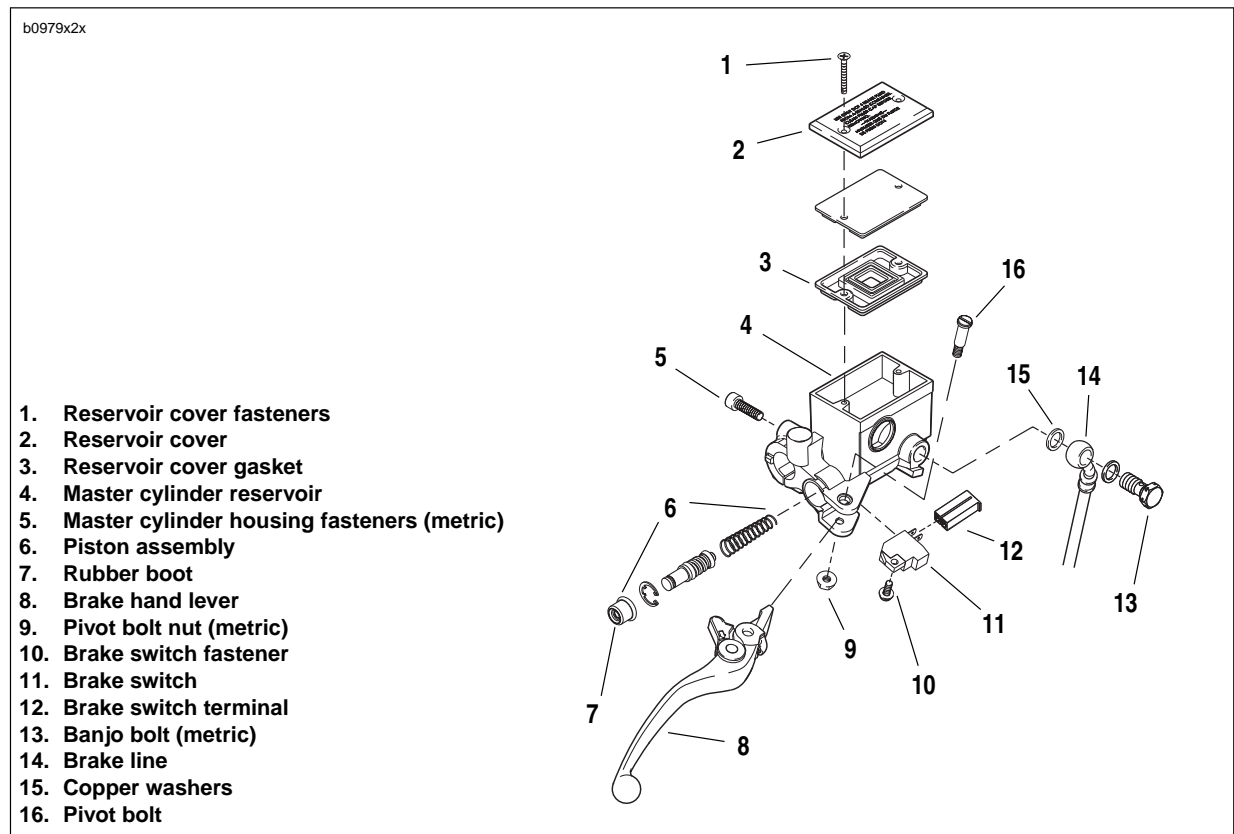
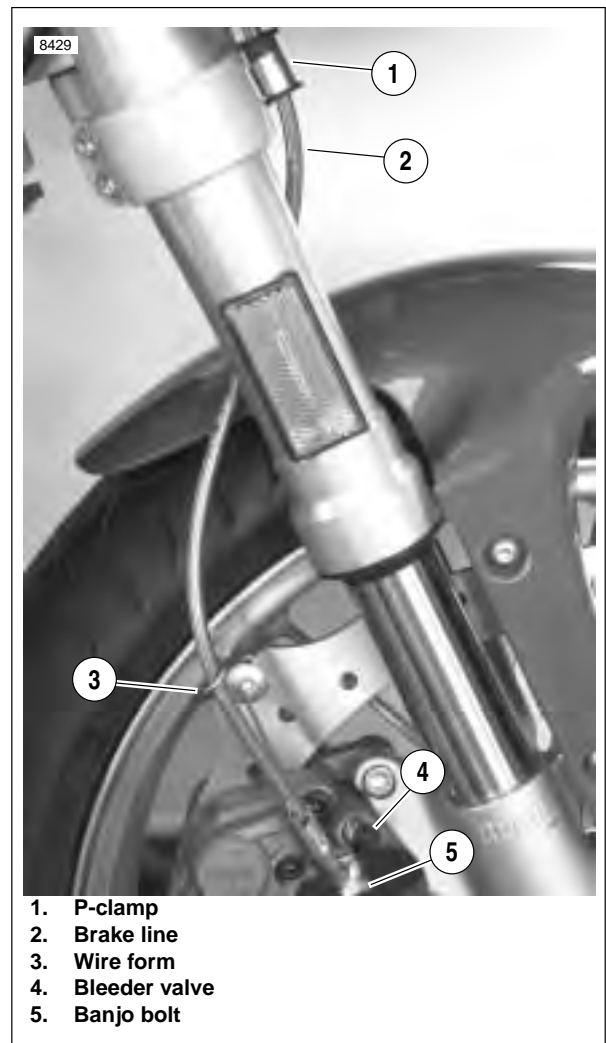

Figure 2-37. Front Brake Hand Lever Assembly
Figure 2-42. Front Brake Line
2. See Figure 2-37. Remove the banjo bolt (13) (metric) and two copper washers (15) to disconnect brake line (14) from master cylinder (4). Discard copper washers.
3. Unplug terminal (12) to detach brake lamp switch (11).
1. See Figure 2-37. Remove pivot bolt nut (9) (metric) and pivot bolt (16) from hand lever pivot.
2. Detach front brake hand lever assembly (8) from hand lever pivot.
3. Detach front brake lamp switch (11) by removing the switch fastener (10).
1. See Figure 2-37. Remove master cylinder cover (2) by removing cylinder cover fasteners (1).
3. Remove rubber boot (7) and discard.
5. See Figure 2-37. Remove piston assembly (6) from front master cylinder reservoir (4) and discard.
4. See Figure 2-37. Insert piston assembly (6), spring first, into master cylinder reservoir (4).
1. See Figure 2-37. Lubricate pivot bolt (16) with LOCTITE ANTI-SEIZE.
2. Align hole in hand lever (8) with hole in hand lever pivot and install pivot bolt (16) through top of hand lever pivot and tighten nut to 80-120 **in-lbs** (9-13.5 Nm).
1. See Figure 2-37. Install front brake lamp switch (11).
- a. Install brake lamp switch (11) with switch fastener (10) and tighten to 7-10 **in-lbs** (0.8-1.0 Nm).
- b. Connect brake switch terminal (12) to brake lamp switch (11).
3. See Figure 2-37. Connect brake line to master cylinder using two **new** copper washers (15) and banjo bolt (13) (metric) and tighten to 16-20 ft-lbs (22-27 Nm).
5. See Figure 2-37. Remove two master cylinder cover screws (1), cover (2) and cover gasket (3).
10. See Figure 2-37. Attach master cylinder cover (2) and cover gasket (3). Tighten two cover fasteners (1) to 9-13 **in-lbs** (1.0-1.5 Nm).
2. See Figure 2-42. Remove p-clamp (1) detaching brake line from right side of lower fork clamp.
3. See Figure 2-37. Remove master cylinder banjo bolt (13) (metric) and two copper washers (15) to disconnect brake line from master cylinder (4). Discard copper washers.
4. See Figure 2-42. Remove caliper banjo bolt (5) (metric), two copper washers and wire form (3) to disconnect brake line (2) from caliper. Discard copper washers.
1. See Figure 2-37. Connect brake line (14) to master cylinder (4) using two **new** copper washers (15) and a banjo bolt (13) (metric). Loosely install bolt into master cylinder.
- a. See Figure 2-42. Install **new** copper washer, brake line (2), **new** copper washer and wire form (3) onto banjo bolt (5).
- b. Finger tighten banjo bolt (5) onto front caliper being careful not to pinch wire form (3) while tightening, wire form should rotate around banjo bolt freely.
- c. Twist brake line (2) into wire form (3) spiral and clock wire form against bleeder valve (4).
4. Tighten p-clamp with fastener (1) on lower triple clamp to 36-60 **in-lbs** (4-7 Nm).
5. See Figure 2-37. Tighten master cylinder banjo bolt (12) (metric) to 16-20 ft-lbs (22-27 Nm).
6. See Figure 2-42. Tighten brake caliper banjo bolt (5) (metric) to 16-20 ft-lbs (22-27 Nm).